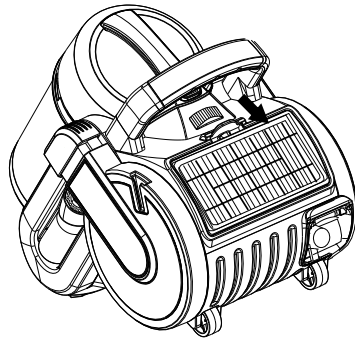

Fig 6/6
1. Release the cover outlet filter and remove the cover as shown. Remove the filter by pulling the tab towards you (Fig. 6/6).